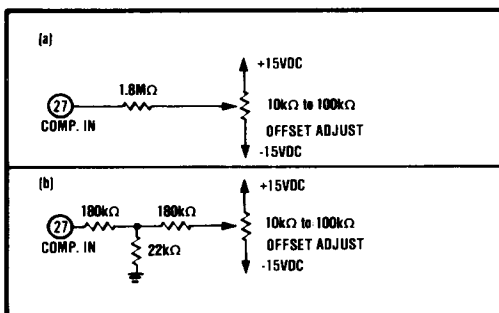

FIGURE 12. Two Methods of Connecting Optional Offset Adjust.
Initial Gain and Offset errors are factory trimmed to typically  $\pm 0.1\%$  of FSR (typically  $\pm 0.05\%$  for unipolar offset) at  $25^\circ\text{C}$ . These errors may be trimmed to zero by connecting external trim potentiometers as shown in Figures 12 and 13.
Gain and Offset errors may be trimmed to zero using external gain and offset trim potentiometers connected to the ADC as shown in Figures 12 and 13. Multiturn potentiometers with 100ppm/°C or better TCRs are recommended for minimum drift over temperature and time. These pots may be any value from 10kΩ to 100kΩ. All resistors should be 20% carbon or better. Pin 29 (Gain Adjust) and pin 27 (Offset Adjust) may be left open if no external adjustment is required; however, pin 29 should always be bypassed with 0.01μF to Audio Common.
**OFFSET**—Connect the Offset potentiometer (make sure  $R_1$  is as close to pin 27 as possible) as shown in Figure 12. Sweep the input through the end point transition voltage that should cause an output transition to all bits off ( $E_{IN}^{OFF}$ ).